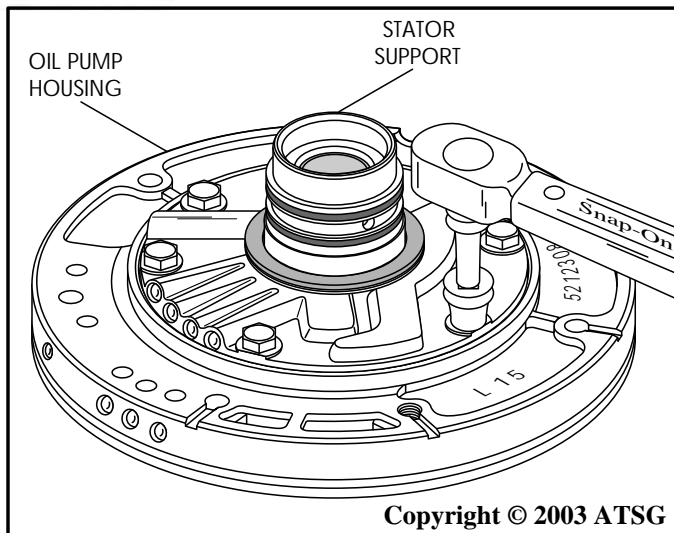

Figure 89
13. Torque the six stator support to pump housing bolts to 20 ft.lb. as shown in Figure 89.